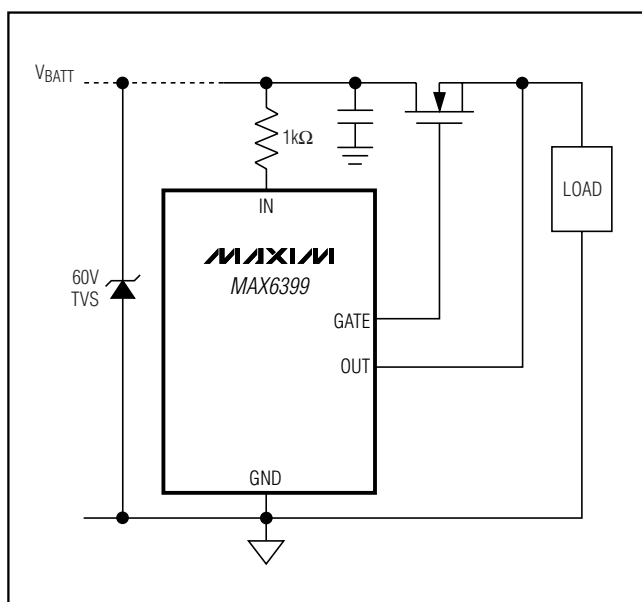

Figure 7. Protecting the MAX6399 Input from High-Voltage Transients
- Add a zener diode or transient voltage suppressor (TVS) rated below the IN absolute maximum rating (Figure 7).